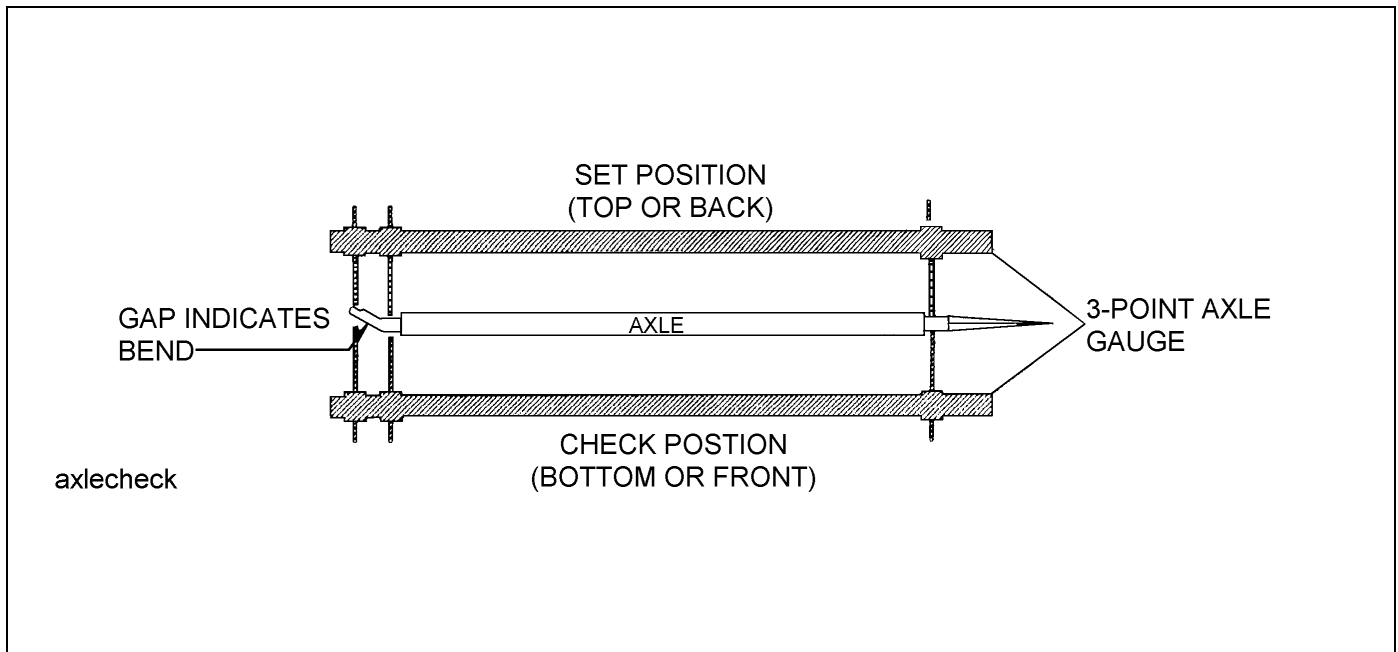

Figure 4-6: Checking Axle for Bend
2. Place a 3-point axle gauge against the front side of the axle, and adjust each axle gauge point to the axle. (Double point end against the inner and outer wheel bearing surfaces of the spindle being checked and the other point on the inner bearing surface on the other spindle) **(See Figure 4-6.)**
3. Move the axle gauge and place against the back side of the axle. If either of the points of double point end fails to touch the axle surface, a bent spindle is evident. A point gap of .015" or more is considered excessive tire “toe” and the axle must be replaced **(See Figure 4-6.)**